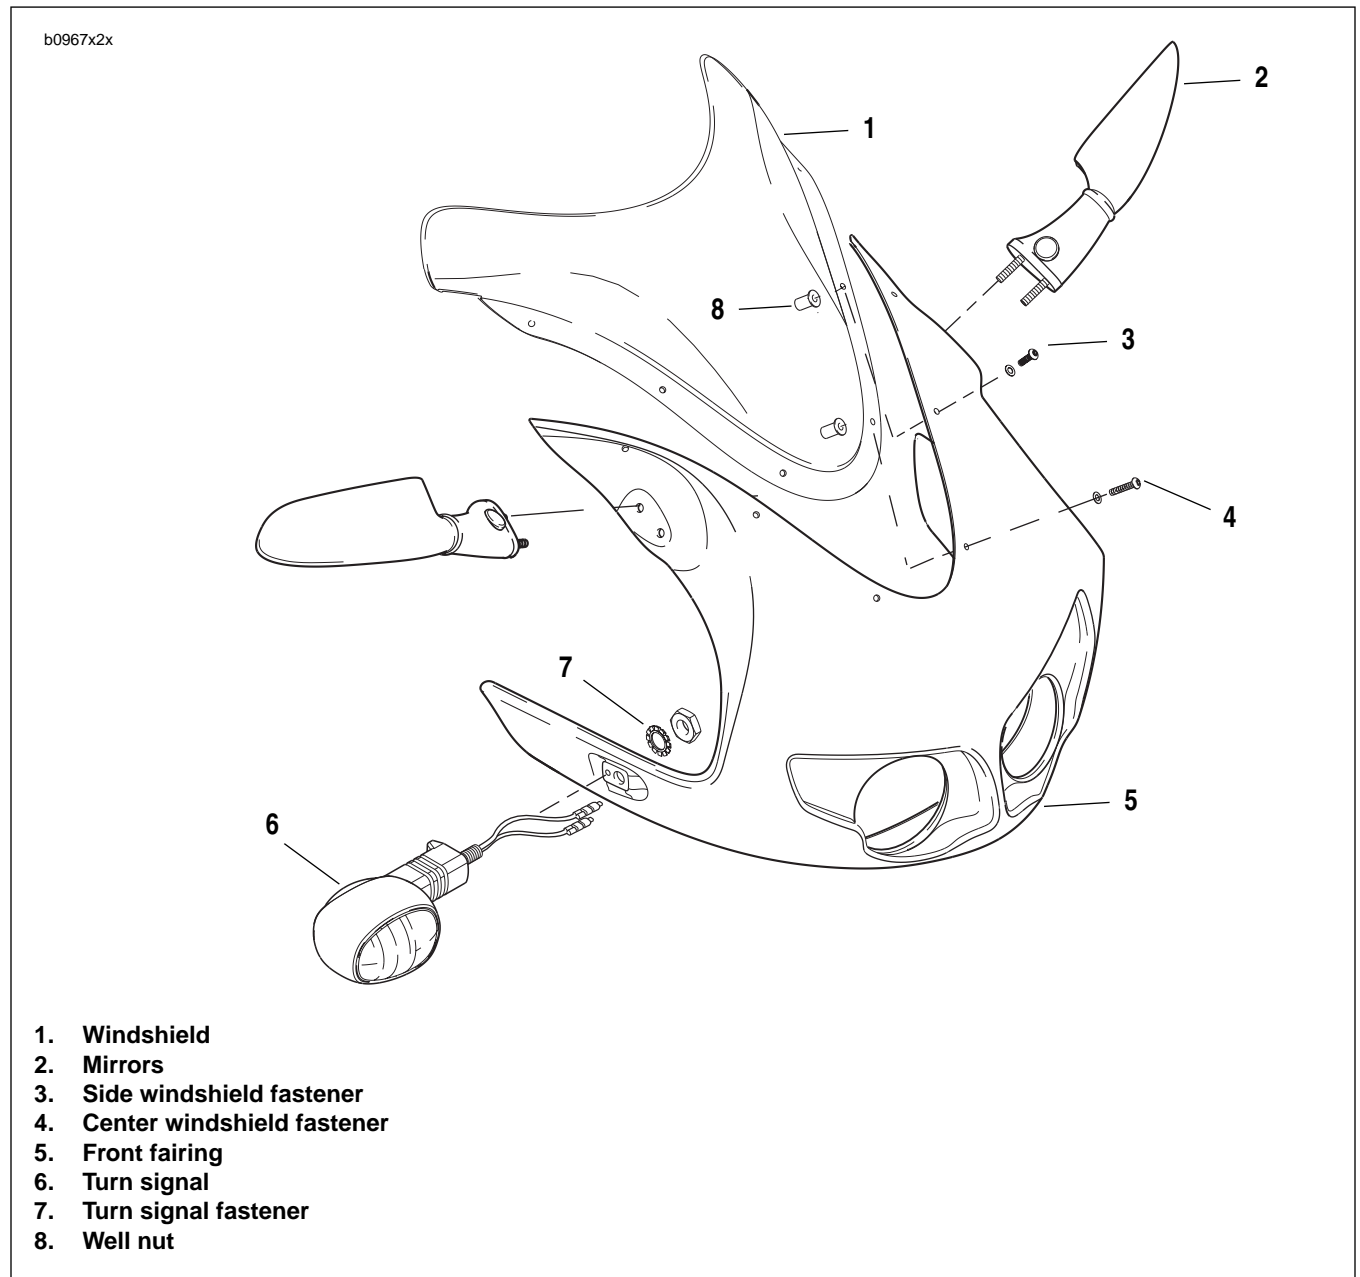

Figure 2-124. Front Fairing and Windscreen
1. See Figure 2-124. Remove two center (4) and four side windscreen fasteners (3) to remove windshield (1).
2. Remove mirrors (2).
3. Remove turn signals (6, 7). See 7.14 TURN SIGNALS and remove front fairing (5).
1. See Figure 2-124. Position fairing (5) onto fairing support bracket and install turn signals (6, 7). See 7.14 TURN SIGNALS.
2. Install mirrors (2) with fasteners and tighten to 72-96 **in-lbs** (8-11 Nm).
3. Install two center (4) and four side windscreen fasteners (3) and tighten to 10-12 **in-lbs** (1-1.4 Nm).